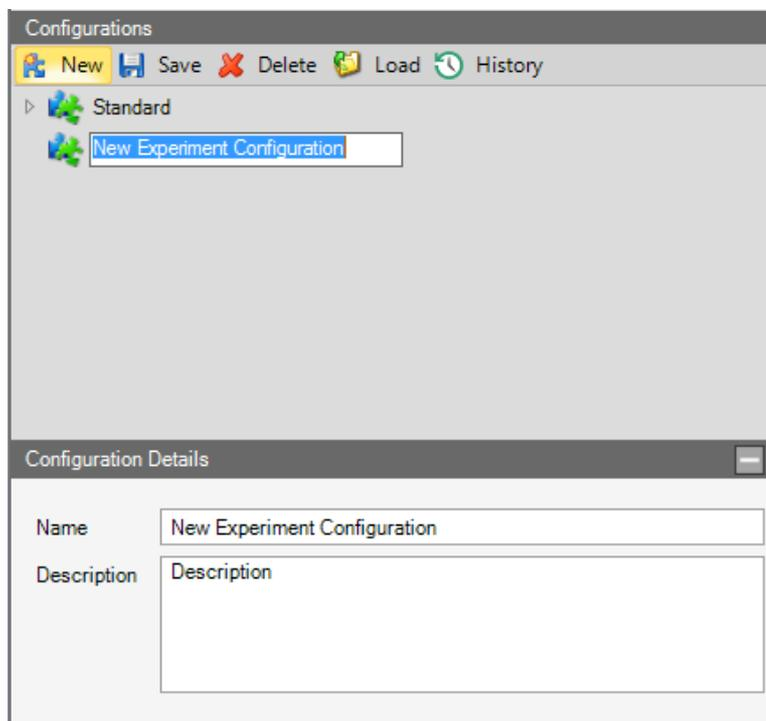

Figure 3-8. Add new Configuration
1. From **Configurator > Experiment Configurator**, click **New** to add a new Configuration, see Figure 3-8.